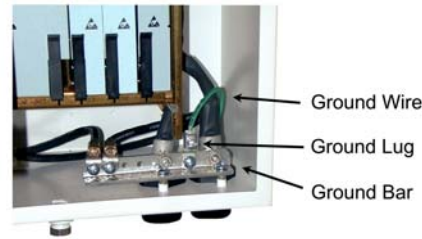

Figure 4
2. Connect one end of the ground wire to the ground lug on the ground bar (see Figure 4).